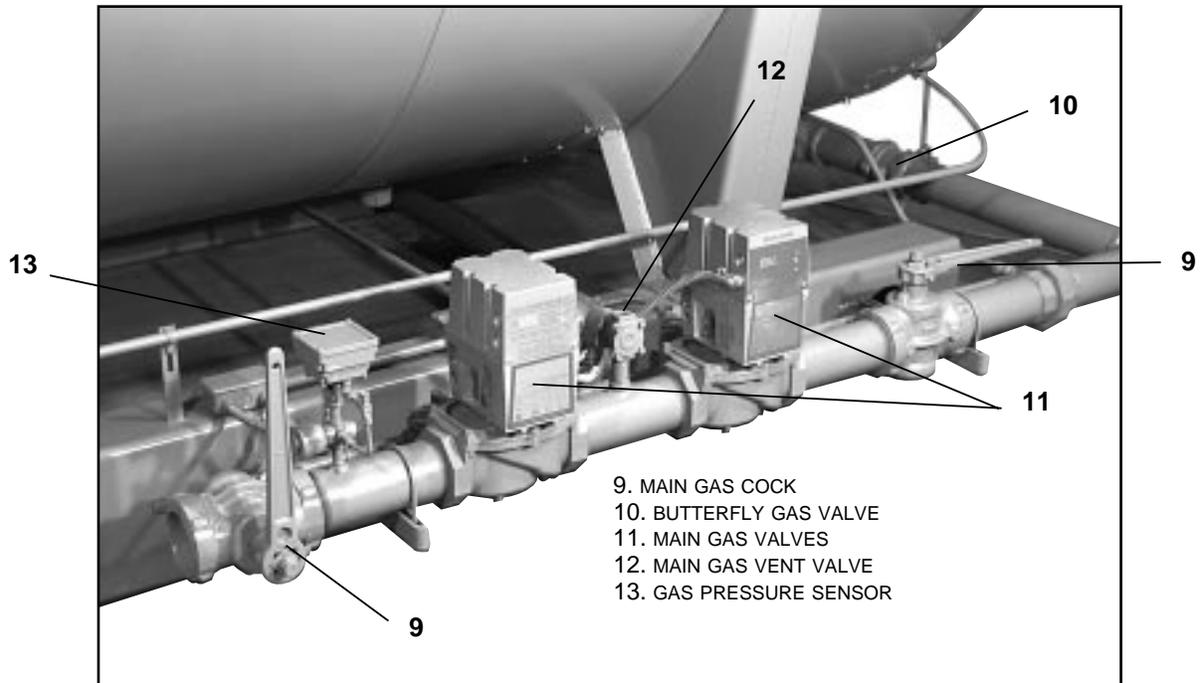

Figure: 2-14 Gas Train (CB-HAWK)
9. Main Gas Cock (Figure 2-14, 15): For manually opening and closing the main fuel gas supply downstream of the main gas line pressure regulator. A second shutoff cock, downstream of the main gas valve(s), is installed to provide a means of shutting off the gas line whenever a test is made for leakage across the main gas valve.
10. Butterfly Gas Valve (Figure 2-14, 15): The pivoted disc in the valve is actuated by connecting linkage from the gas modulating cam to regulate the rate of gas flow to the burner.
11. Main Gas Valves (Figure 2-14, 15): Electrically actuated shutoff valves that open simultaneously to admit gas to the burner. The downstream valve is equipped with a "proof of closure" switch that is connected into the pre-ignition interlock circuit.
12. Main Gas Vent Valve (Figure 2-14, 15): A normally open solenoid valve installed between the two main gas valves to vent gas to the atmosphere should any be present in the main gas line when the gas valves are deenergized. The vent valve closes when the gas valves are energized.
13. Low Gas Pressure Switch (Figure 2-14, 15): A pressure-actuated switch that is closed whenever main gas line pressure is above a preselected pressure. Should the pressure drop below the setting, the switch contacts open a circuit causing the main gas valve(s) to close, or prevent the burner from starting. The switch is usually equipped with a device that must be manually reset after being tripped.